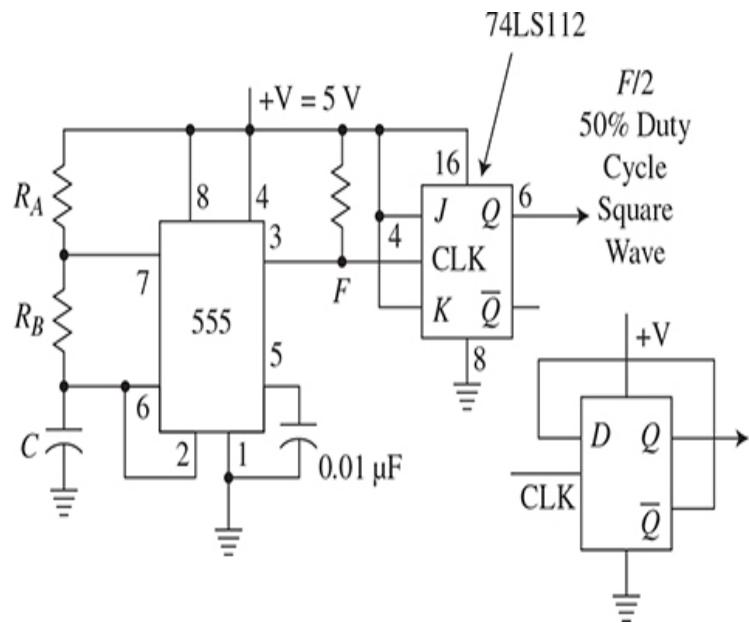

Figure 8.10 Another way to get 50 percent duty cycle output with a 555 timer IC and a flip flop.
Another way to get a perfect 50 percent duty cycle is to send the 555 output to a type D or JK flip flop (FF) as Fig. 8.10 shows. Note the different connections for the JK and D FF.